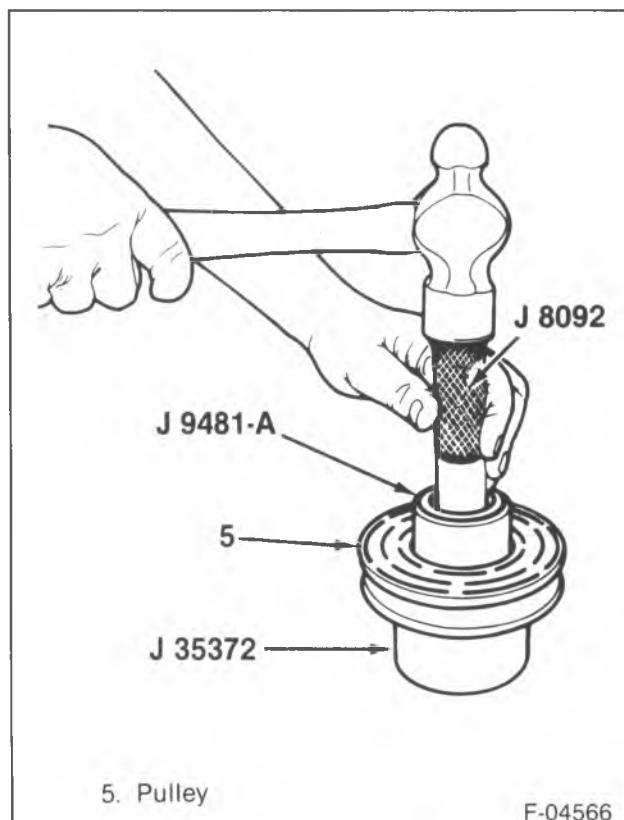

Figure 13—Installing the Pulley Rotor Bearing
- Pulley (26) on J 35372 (figure 13).
2. Pulley bearing (25) into the hub using J 29886, J 9481-A and J 35372 (figure 13).
- J 33019 in the pulley bore (figure 13).